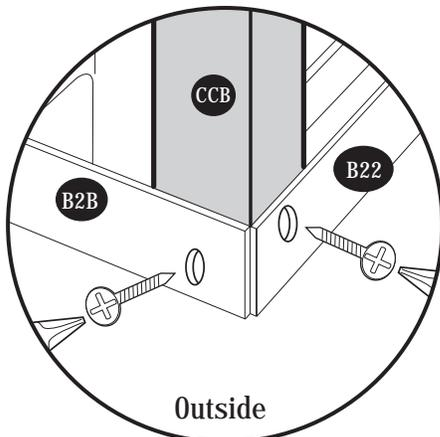

fig. 1
12. From outside back of the shed, detach the base angles from the corner column (CCB) at both corners and remove the corner columns. See fig. 1. From inside detach the (B21) & (B22) base angles from middle column (CMB). See fig. 2.